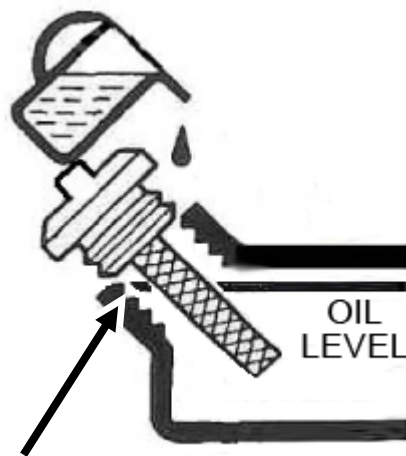

Figure 2 - Add Oil To TOP Of Threads
3. Using a funnel, add high detergent motor oil to fill the engine crankcase to the correct quantity. SAE10W-30 oil is recommended for general, all-temperature use. **When the engine crankcase is full, the oil level should reach all the way up to the threads as illustrated in Figure 2.**